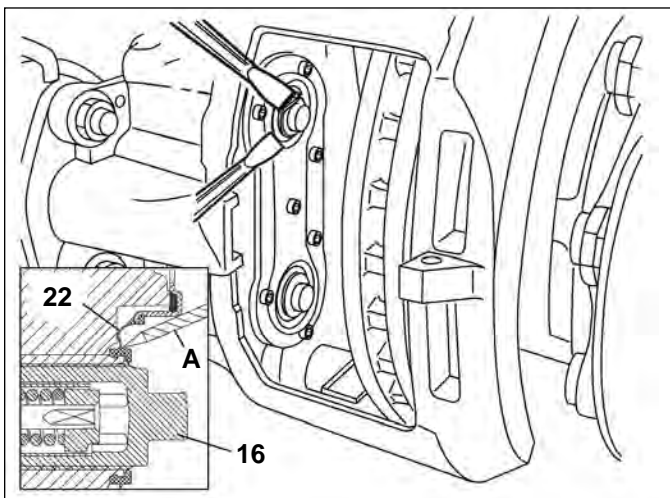

FIGURE 49 - INNER SEAL REMOVAL
5.5.8 See Figure 49. Carefully remove the inner seal using one or two flat-blade screwdrivers as shown. **Caution: Do not insert the screwdrivers so far that they come into contact with the threaded tubes. Damage to the threaded tubes would require that the brake be replaced.**